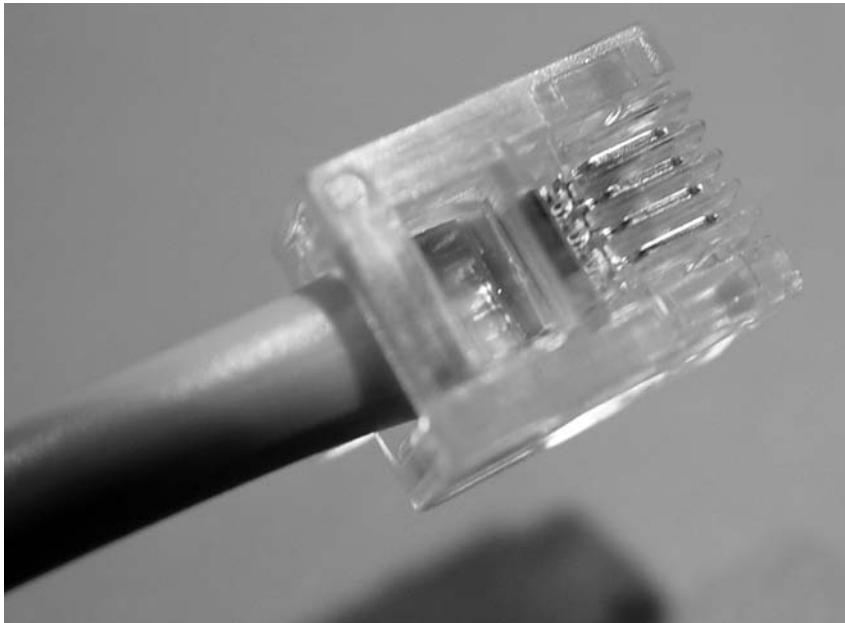

FIGURE 5-5: Completed RJ-14. Notice the outer insulation is captured in the crimp.
8. Inspect your work. Each wire should still be fully inserted into the connector and in the correct order. Compare yours to Figure 5-5.